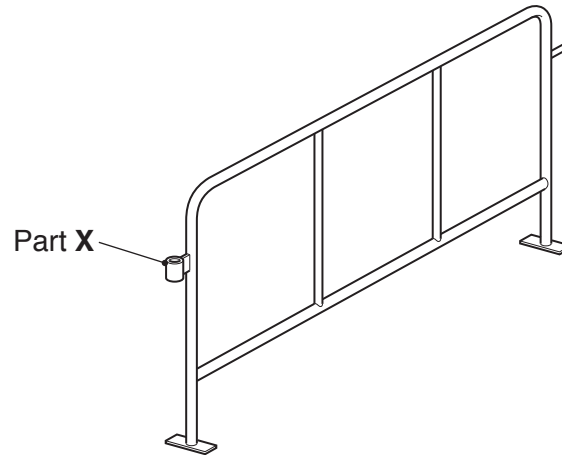

Fig. 4.1
- 4 Fig. 4.1 shows a free standing crowd barrier.